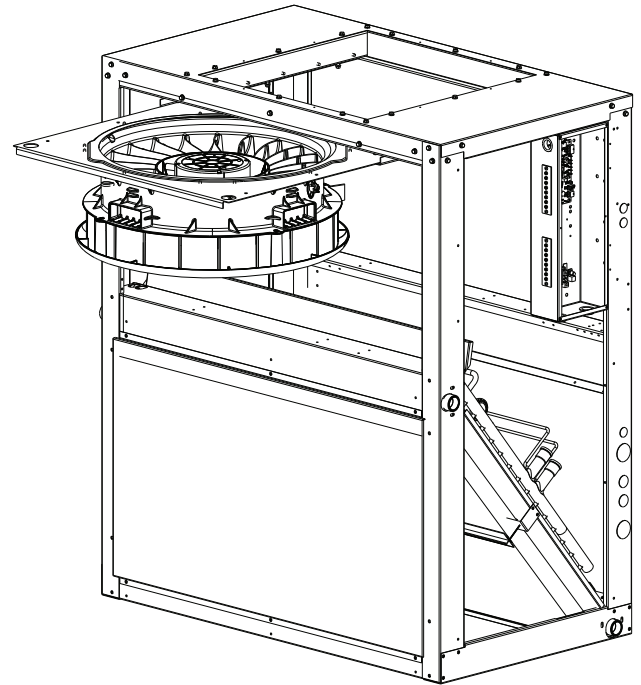

Fig. 33 — Slide Out Fan Deck Assembly
5. Slide fan deck assembly out of the panel opening that is being used. Side panel access will not be allowed. See Fig. 33.